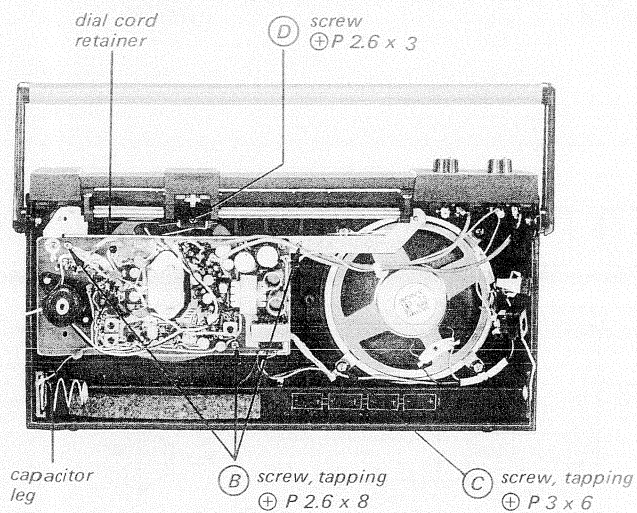

Fig. 2-2
2. Remove the four screws marked (B) and (C) in Fig. 2-2.
4. Loosen the screw marked (D) in Fig. 2-2 and remove the dial cord from the dial cord retainer.
2. Loosen the screw marked (D) in Fig. 2-2 and remove the dial cord from the dial cord retainer.